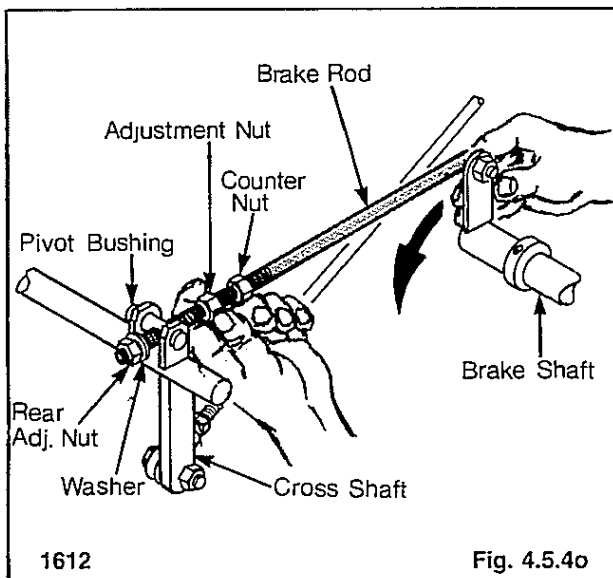

Fig. 4.5.4o
15. Push and hold the brake shaft lever to ward the rear of the loader (fig. 4.5.4o).
Set the adjustment nut on the brake rod so that it is against the pivot bushing on the brake cross shaft (fig. 4.5.4o).